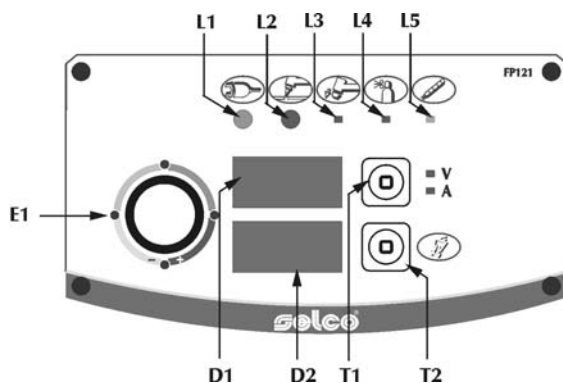

Fig.1
4.1 Främre kontrollpanel (Fig. 1)